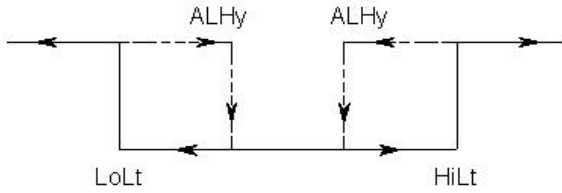

Fig. 4
- * *The function of " Low limit value " setting, refer to page 13, Fig. 4.*
- * *The function of " High limit value " setting, refer to page 13, Fig. 4.*
* The function of " Alarm Hysteresis value " setting, refer to page 13, Fig. 4.